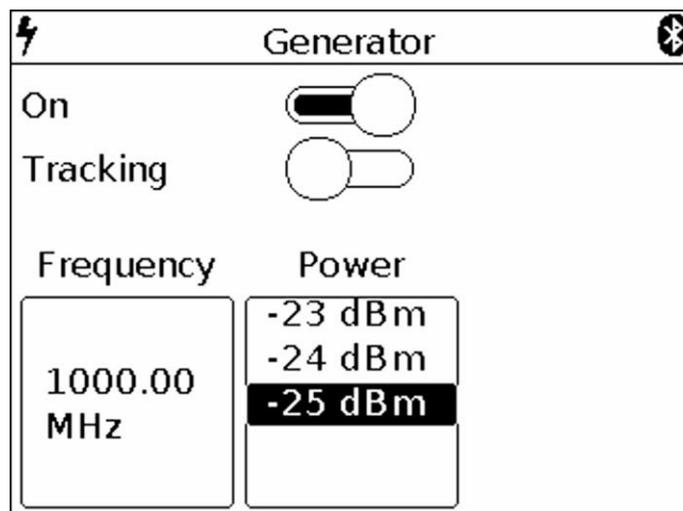

Figure 14 – Setting the frequency and power output of the generator
7.6.2. To turn on the internal output generator, move the “slider” across the screen to the right. On the screen will open the window for setting the frequency of the **Frequency** and the power of the **Power** of the generator output signal, as in Figure 14.